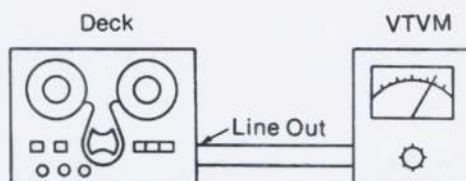

Fig. 41
- (1) Set the head selector to the 2-track position.
- (2) As shown in figure 41, connect a VTVM's to the balanced type line output connectors.
- (3) Set to the 19 cm/s tape speed.
- (4) Use 16 kHz position (for azimuth adjustment) in test tape QZZOF190EX.
- (1) In the condition shown in figure 41, playback test tape QZZOF190EX.
- (1) In the condition shown in figure 41, playback test tape QZZOF190EX, and adjust the tilt-adjustment screw (D) so that output becomes maximum.